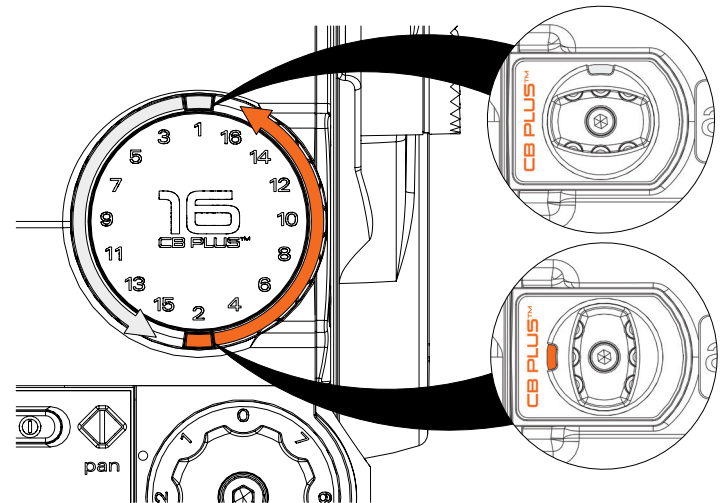

Fig. 4
- 3.1 For safety select Counterbalance position 16, being the Orange coloured marker on the Counterbalance Selector Knob pointing to position 16 and the CB Plus Selector Knob displaying an orange marker (Fig. 4).